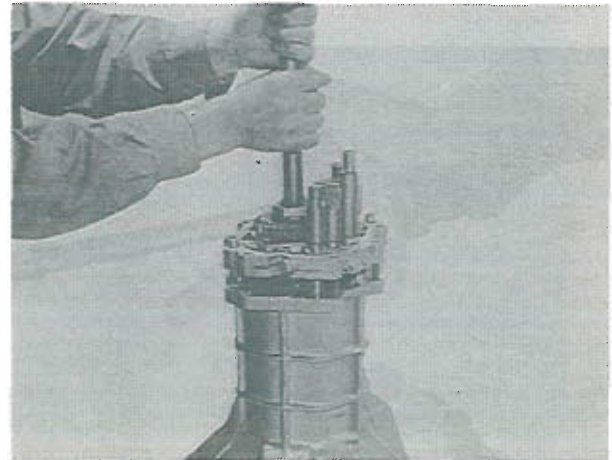

Fig. 7-28 Position of bearing housing assembly
2. Position the bearing housing assembly onto the transmission case, as shown in Fig. 7-28.